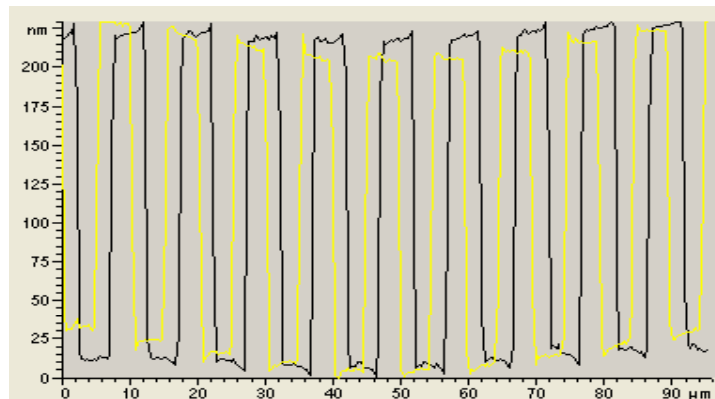

Fig. 2.5 Cross-section of a trace and a retrace showing hysteresis in a scanner
- Hysteresis is the effect in which the curve showing the extension of the scanner with the applied field in one direction does not match the contraction of the scanner with the applied field in the other direction. The effect of hysteresis is shown in the Fig. 2.5 below where the scan cross-section in one direction (called trace) has an offset to the scan cross-section in the other direction (called retrace).